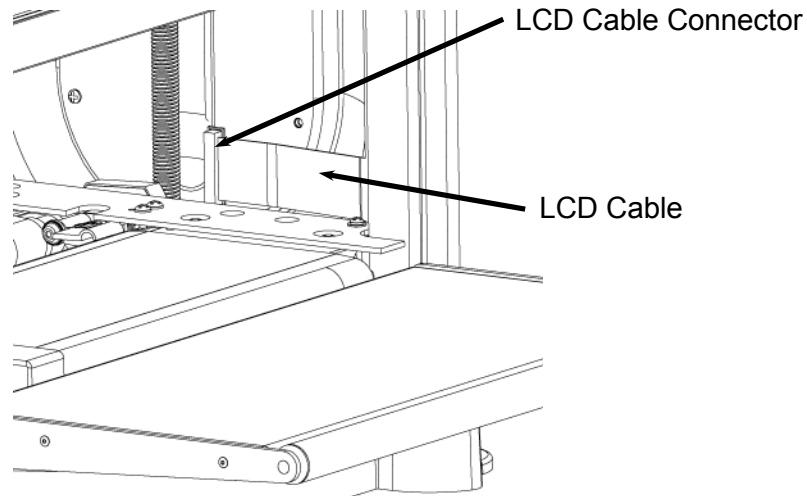

FIGURE 2: LOCATION OF THE LCD CABLE
33. **Plug in the LCD ribbon cable.** Plug the LCD ribbon cable into its connector located in a cutout on the back of the side panel assembly (see Figure 2).